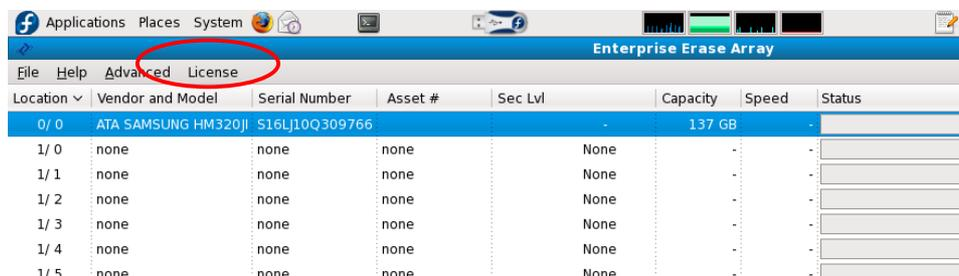

Figure 7.1 – License Pull Down Menu
7.1 The first step in requesting additional licenses is to select the “Licenses” tab on the pull down menu at the top of the GUI. Figure 7.1 shows the location of this pull down menu.